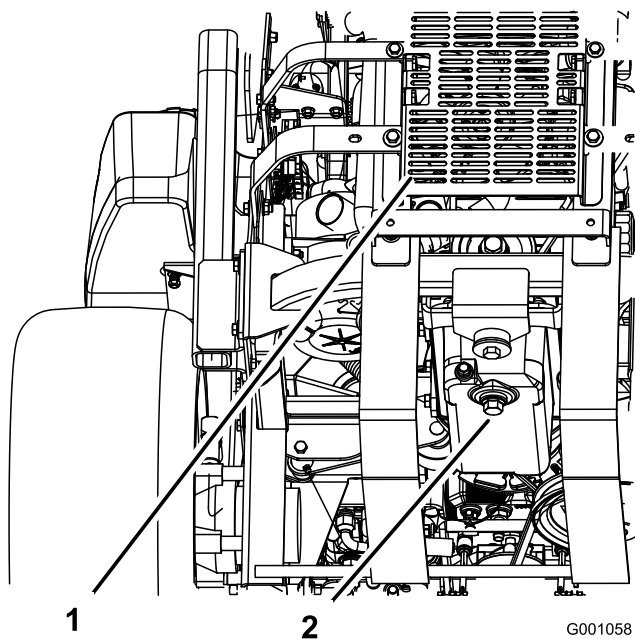

Figure 34
5. Place a pan below the oil drain. Remove the drain plug and let the oil drain completely (Figure 34).